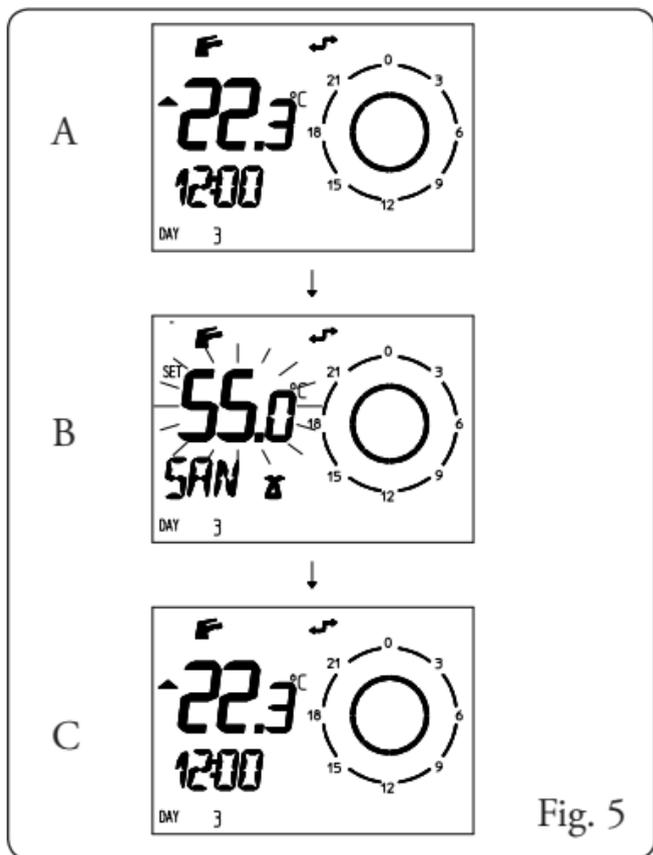

Fig. 5
- With the CRD set to “Domestic hot water” () only the domestic hot water heating function is enabled (detail A fig. 5).
- The domestic hot water temperature is selectable by means of buttons   and  ; the display shows the value during adjustment (detail B fig. 5). Changes are stored at the end of flashing or immediately by pressing the button **OK/1** and thus returning to the normal display (detail C fig. 5).